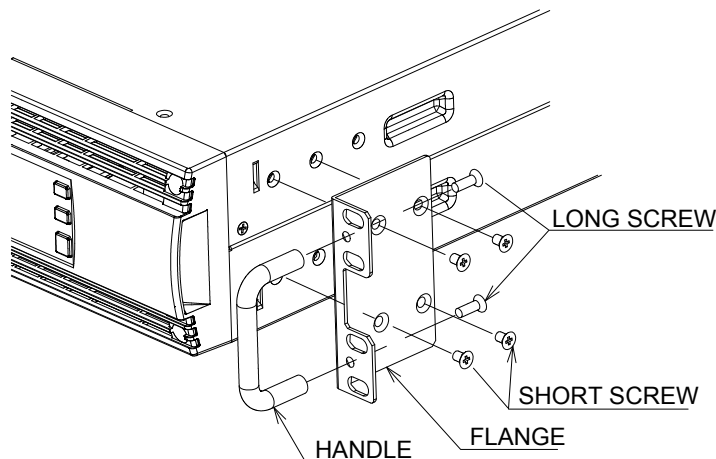

Figure 3-2 Installation of flange
3. Fix the flange that installs the handles to the side of UPS with the short screw 4 pcs of the attachment. (Figure 3-2)